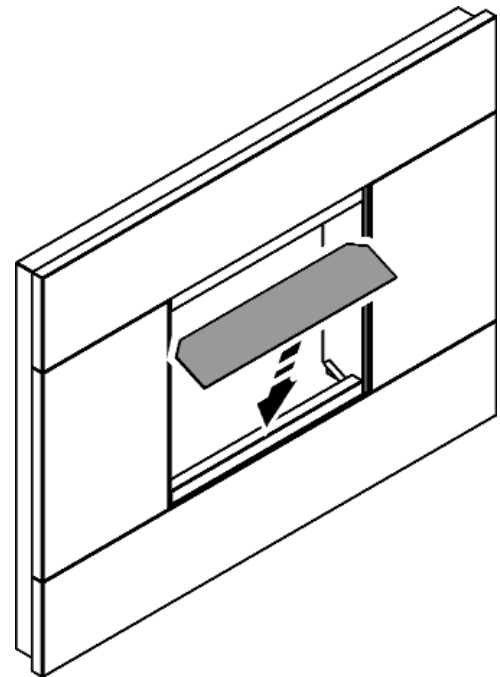

Figure 10. Coal support location
2. The heater is supplied with a coal support (See figure 1). Fit this to the fascia as shown in figure 10.